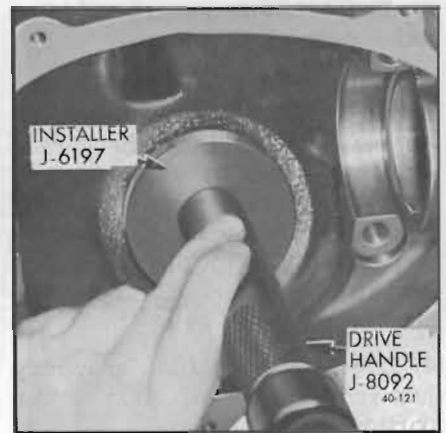

Figure 40-107—Installing Rear Pinion Bearing Outer Race
1. If rear pinion bearing is to be replaced, install new outer race using Installer J-6197 with Driver Handle J-8092. See Figure 40-107.